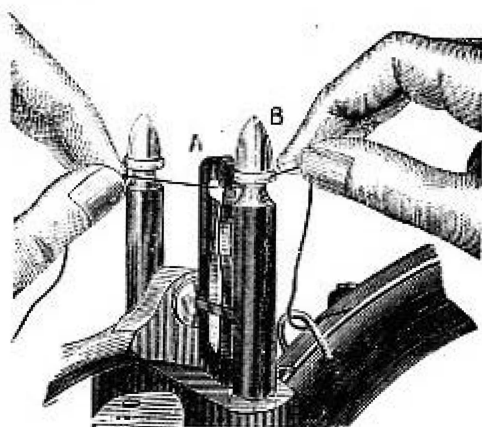

Fig. 8a.
5. Pass the thread through the circular opening at the top of the **Take-up Rest** immediately behind the needle Bar, the position of which is indicated by Figures 8 and 8a. Be sure the cotton is at the back of flat steel spring. (See Fig. 8a below).